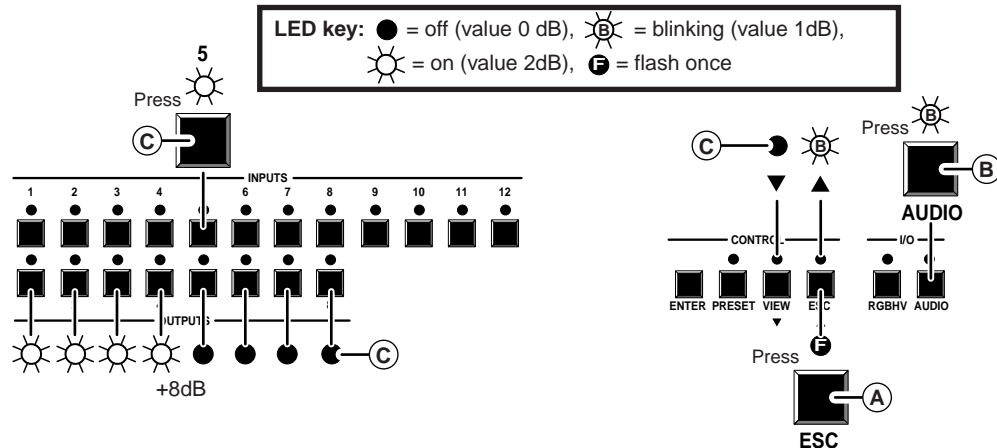
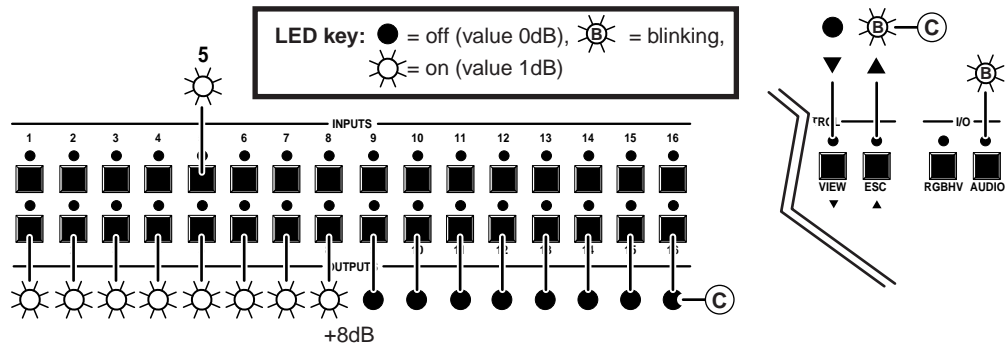
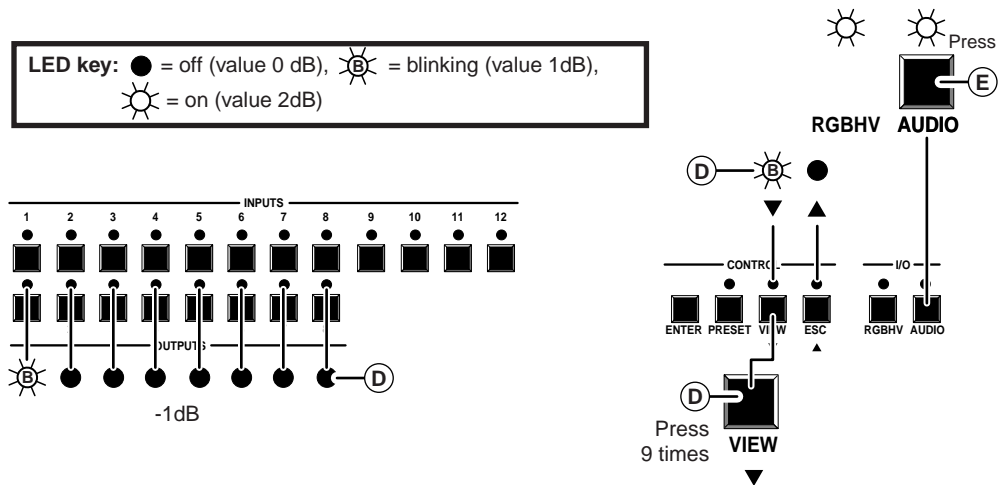
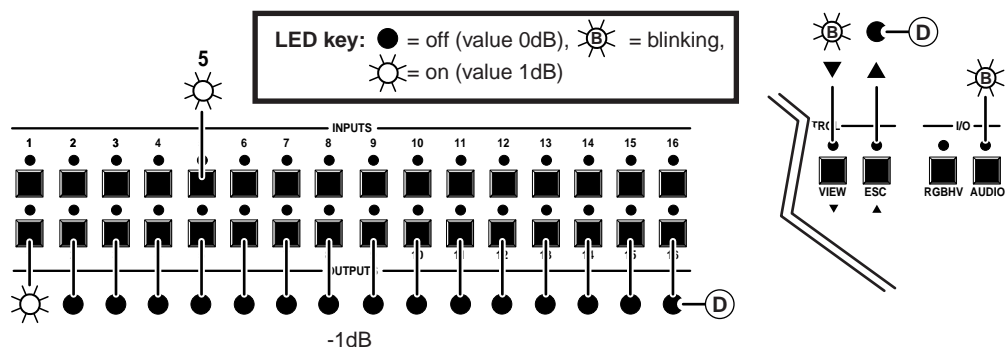

Figure 3-15 — Example 8: Viewing the audio level, CrossPoint 84, 88, 124, and 128
Figure 3-16 — +8dB displayed, CrossPoint 168 and 1616
Figure 3-17 — Example 8, step D: Adjusting the audio level, CrossPoint 84, 88, 124, and 128
Figure 3-18 — -1dB displayed, CrossPoint 168 and CrossPoint 1616
See figure 3-15, figure 3-17, and the following steps for an example of viewing and adjusting the audio level. Audio gain and attenuation is displayed differently on
the CrossPoint 168 and 1616, but the steps for displaying the value are the same. For this reason, figure 3-16 and figure 3-18 show the indications displayed on the CrossPoint 168 and 1616 without duplicating all of the actions shown in figure 3-15 and figure 3-17.
Figure 3-15 and figure 3-16 show an audio level of +8dB displayed in the output LEDs on the two different CrossPoint front panels.
- (D) Press and release the View (▼) button once to decrease the audio level displayed in the output LEDs by 1dB. Press and release the View (▼) button several more times to decrease the audio level displayed in the output LEDs by an additional 1dB per button push. Note the output LED, View LED, and Esc LED changes that occur each time the View (▼) button is pressed and released. Figure 3-17 and figure 3-18 show the result of pressing the View (▼) button a total of 9 times. Both figures show an audio level of -1dB. Note that the Esc (▲) LED has turned off and that the View (▼) LED is blinking to indicate a negative level.